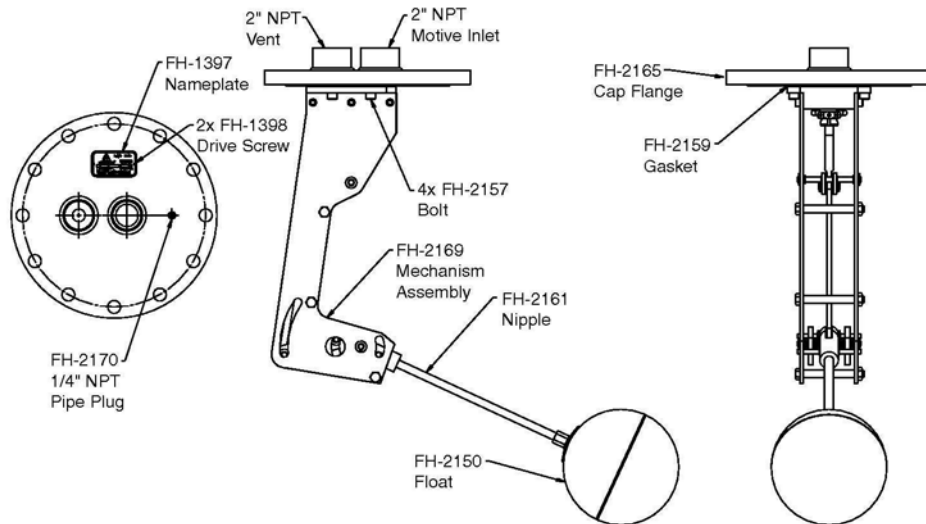

Fig.2 : EPT-516 Pumping Trap Cap Assembly
3. Remove cap assembly and inspect the mechanism for freedom of movement. Remove any dirt or scale inhibiting the motion of the mechanism (see figure 2 on page 3).